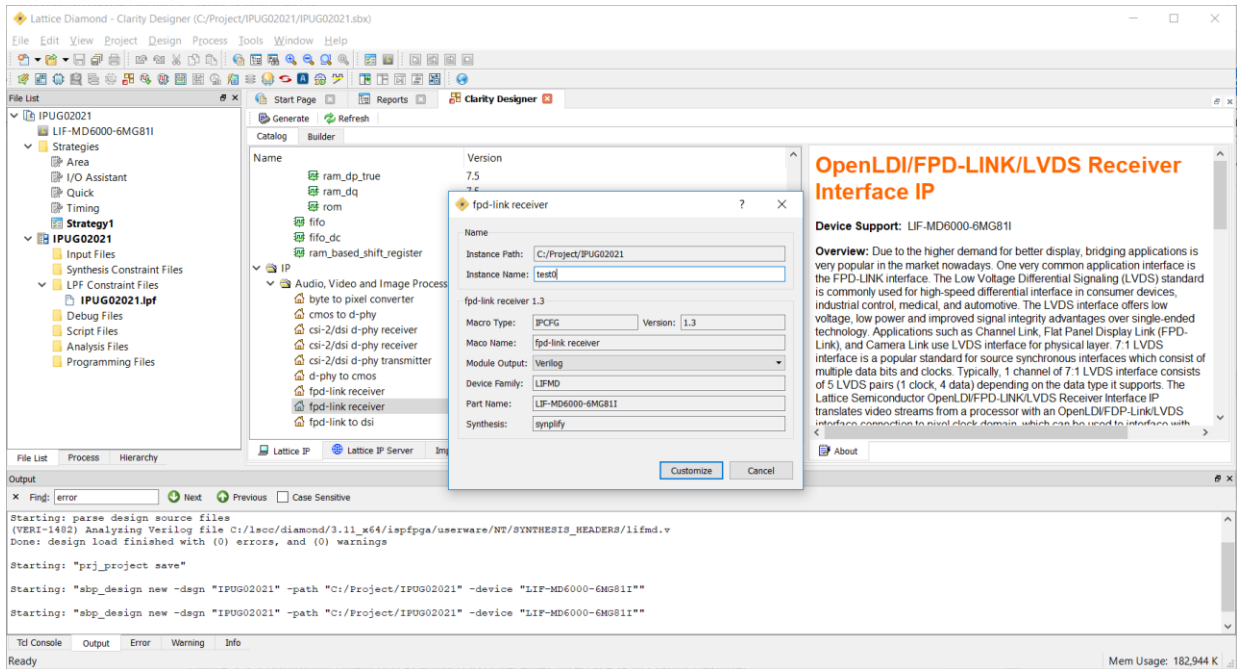

Figure 5.3. Configuring OpenLDI/FPD-LINK/LVDS Receiver Interface IP in Clarity Designer
1. Double-click **FPD-LINK RECEIVER** in the IP list of the System Catalog view. The **fpd-link receiver** dialog box is displayed as shown in Figure 5.3.